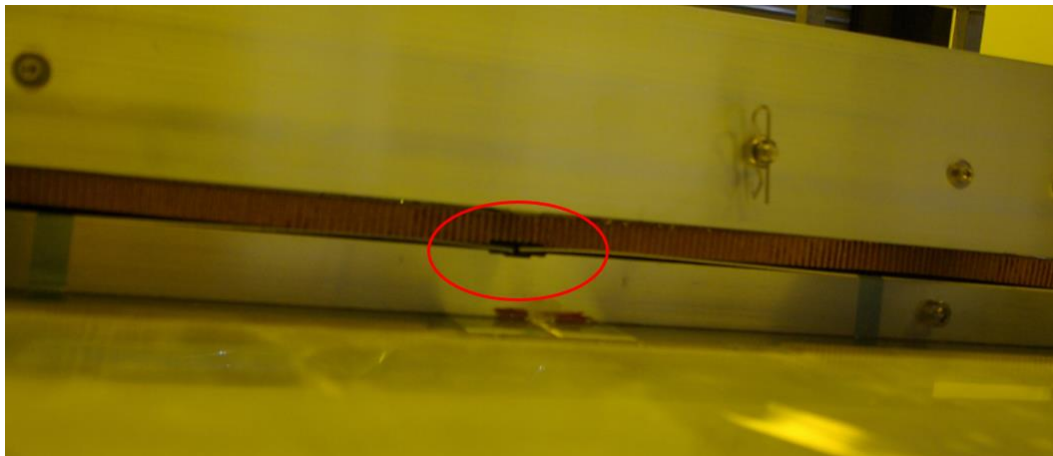

Figure 47 Alignment of the Panel with respect to the endpieces mirror side
5.1.4.11 Take the honey comp panel “HE_LHCB_SCIFI_PAN_908410_A_0_LHCB-SciFi-Verbundplatte-LI” with the “Lifting and Turning device” by using vacuum with the vacuum pump “Leybold DIVAC 2.2 L” and place it on the top of the gluing jig with rough positioning by taking for reference the cut out in the middle for the endpieces mirror side (Figure 47).